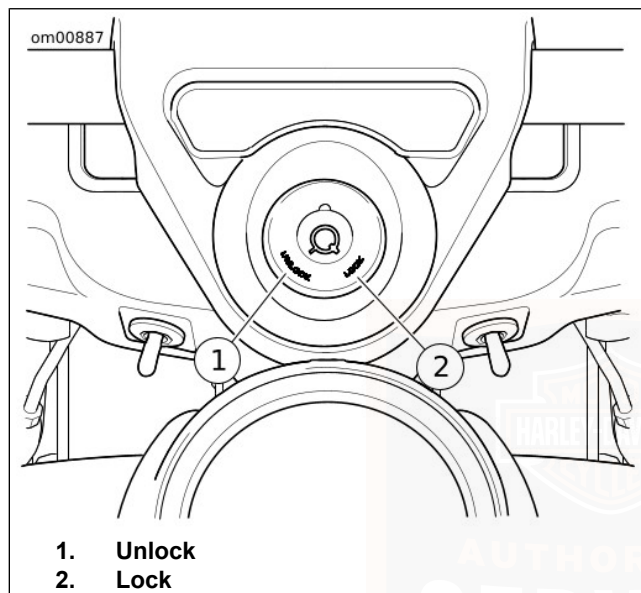

Figure 17. Fork Lock: Road King Models
FLHR, FLHRC, FLHRXS: See Figure 17. The fork lock is at the top of the steering head, behind the headlamp nacelle and inset in the handlebar clamp shroud.
2. See Figure 17. Insert key and turn key counterclockwise to LOCK position. Remove key.